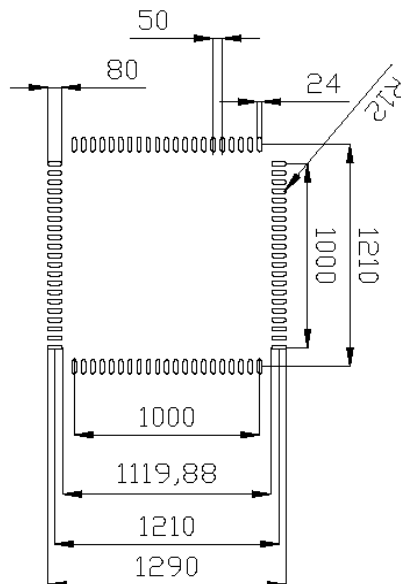

FIGURE 4:PCB BOARD LAYOUT
1. Pad definition will be according to Figure 4. All dimensions are in milli-inches (mil).